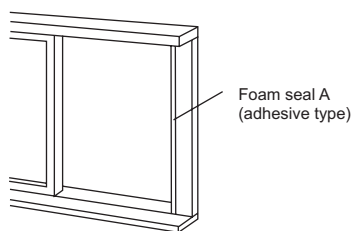

Fig.14
1. Cut the foam seal(adhesive type) to the proper length and attach it to the window frame. See Fig.14.